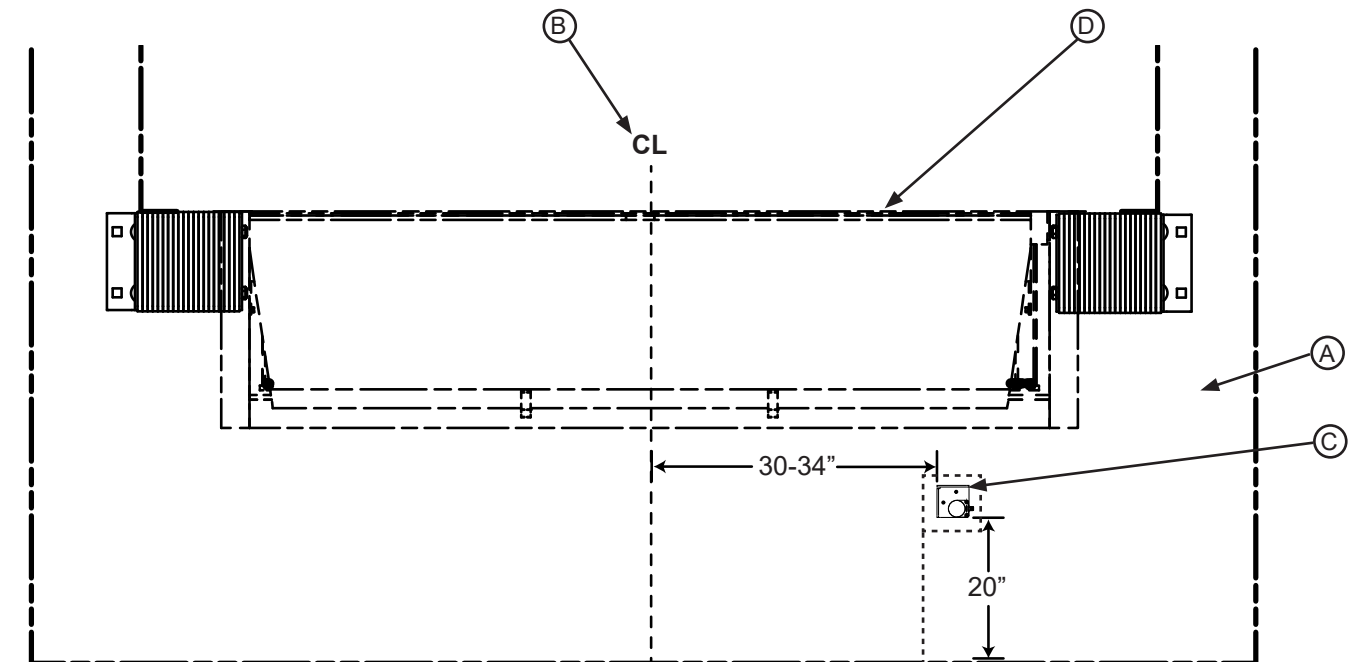

Figure 5
3. Position the bracket on the building wall (A), 30"-34" from the centerline of the dock (B) to avoid interference from vehicle restraints, And 20" from the ground. See **Figure 5**. If the sensor cannot be mounted within these dimensions, please contact Technical Services.